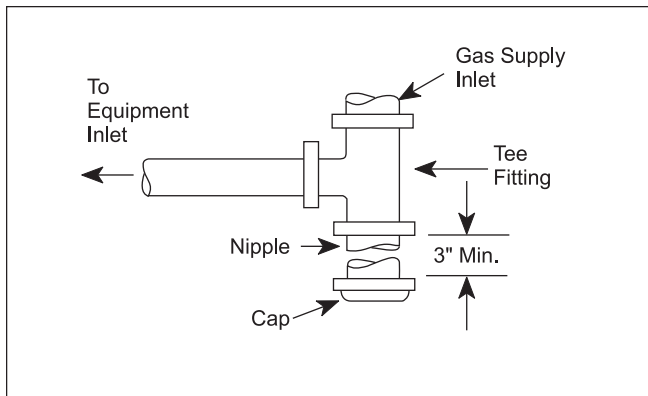

Figure 8. T-Fitting Sediment Trap Installation.
- 3. A trap (drip leg) must be provided ahead of the gas controls (see Figure 8). A manual gas shutoff valve must also be provided for service convenience and safety. Check the local codes.